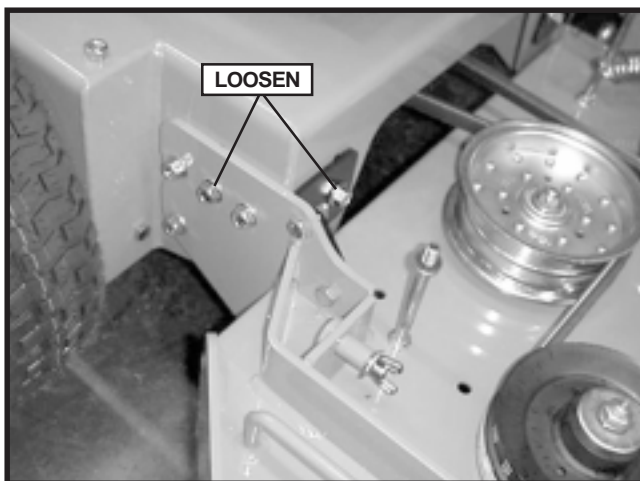

FIGURE 1
- a. To change heights on the rear deck loosen, but **do not** remove the middle bolt on each side of the rear deck, and the two bolts on the front side of the rear deck. See Figure 1.